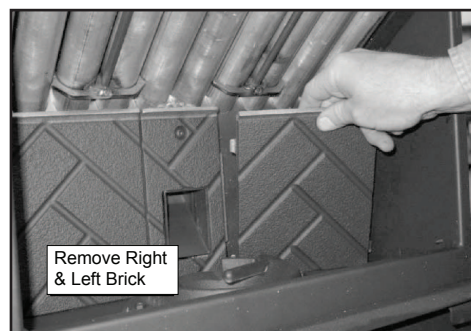

Figure 35.3
- The top baffle must be removed before you can remove the right and left brick. Remove the right brick by holding top lip of brick and lifting up, then push outside edge back. Slide brick to the right until it is flush with the firebox. Rotate the inside edge of the brick forward and remove brick. Repeat for left brick. **Figure 35.3.**